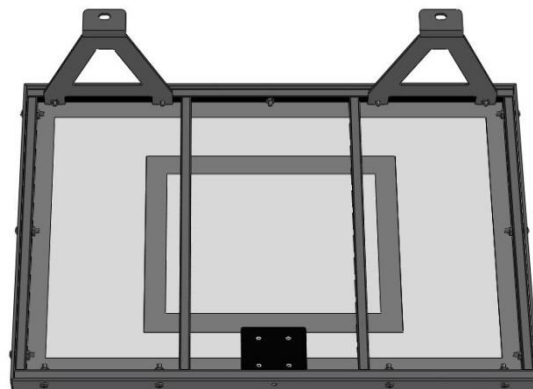

Figure 1
Attach the Upper Brackets to the Frame using (4) of the #10-24 x 1" Frame Screws and (4) #10 Locknuts. The Upper Brackets attach to the two outside holes in the top of the frame. See Figure 1.